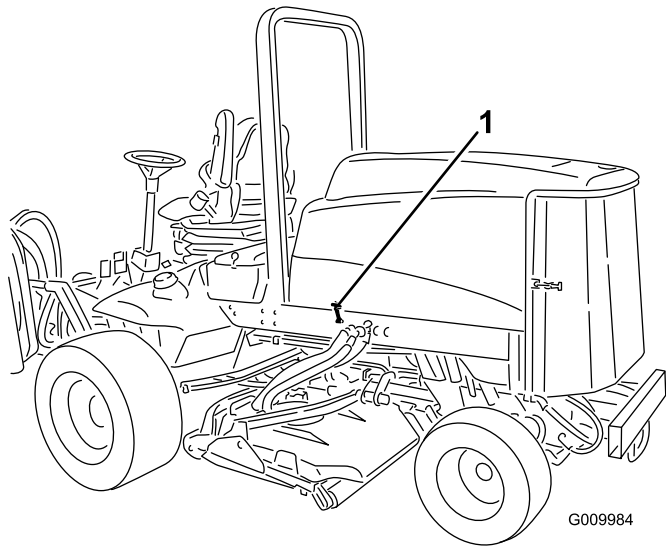

Figure 47
1. Release the hood latches (Figure 47) and pivot the hood open.